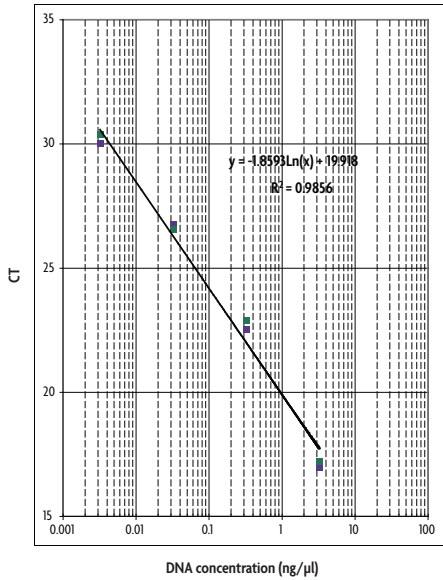

Figure 1: Example standard curve linear regression plot.
5. Plot CT versus log DNA concentration. See Figure 1 on page 24. The slope of the standard curve can be used to determine primer efficiency in the equation on page 21.